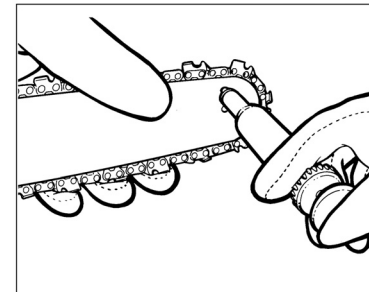

Fig. 14
- until it appears at the outside edge of the sprocket tip (Fig.14).